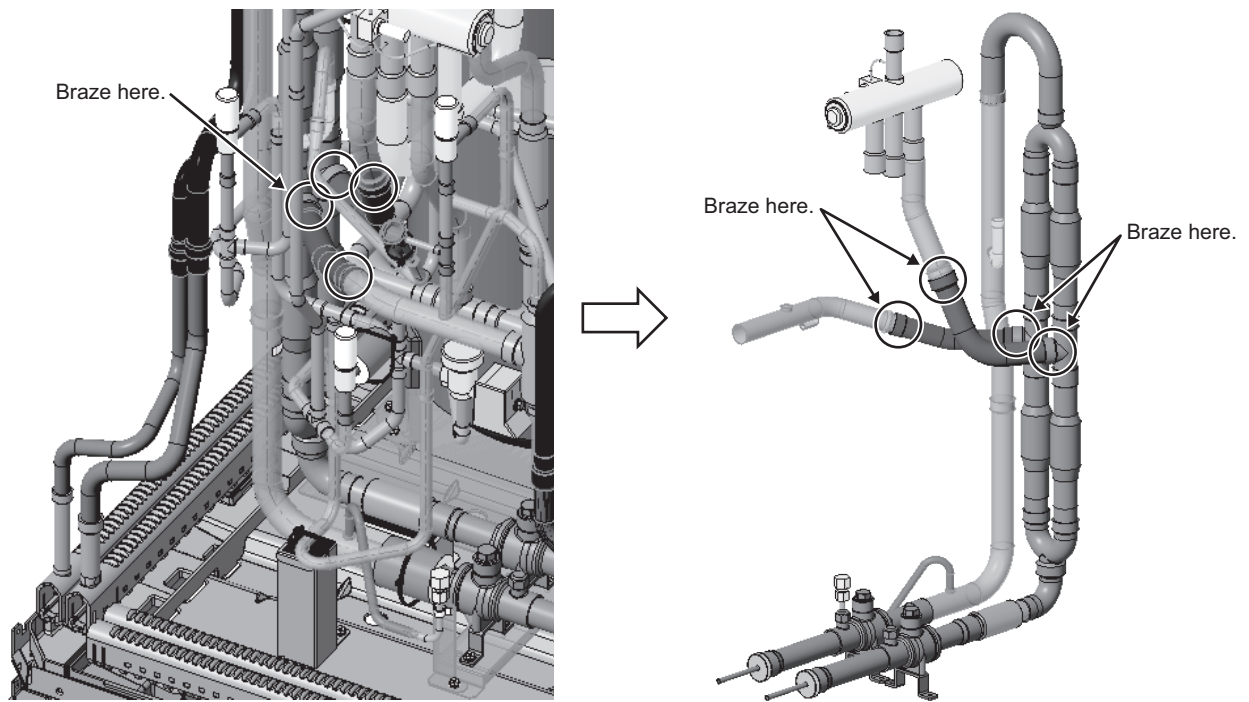

Fig. 12
(10) Braze the new check valve assembly, supplied pipes, and connecting pipes. (Four areas to braze: Fig. 12)